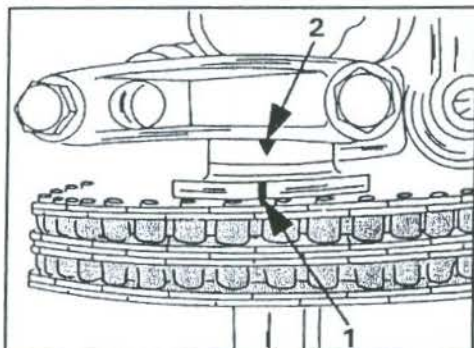

Fig. 1.16 – Alignment of the notch in camshaft flange (1) and the lug on No. 1 camshaft bearing cap (2) at the T.D.C. position of the engine.
- Check the marking for top dead centre for the No. 1 cylinder in the camshaft (see Fig. 1.16). A notch is machined into the camshaft which should be in line with a mark machined into the cylinder head. The alignment can be seen by looking from above and comparing it with Fig. 1.16.